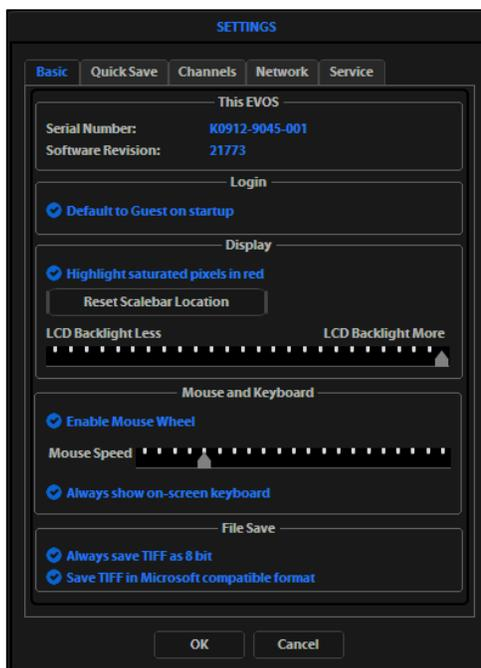

Figure 9 Settings: Basic Tab
**Note:** The instrument is pre-configured with an overexposed pixel feature. Overexposed pixels will appear red, to obtain the maximum level of brightness without any overexposed areas, dim the illumination until the red highlights disappear. To disable this feature, go to the Basic Tab, found under the settings menu (Figure 9).